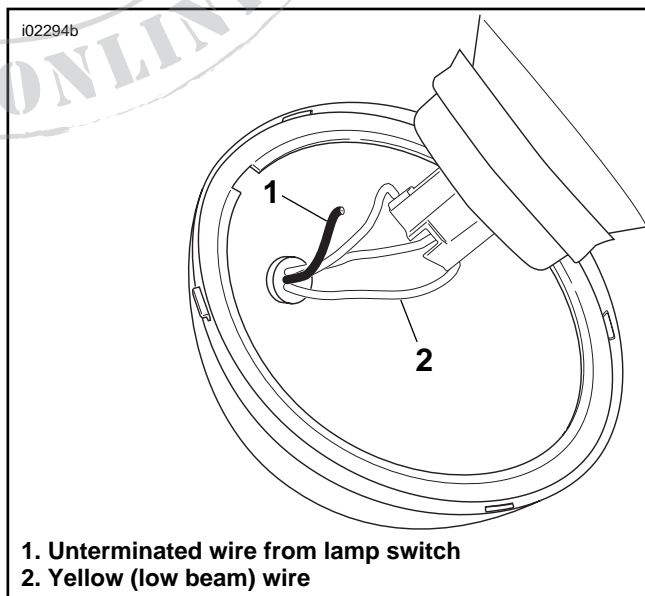

Figure 7. Splice the Unterminated Wire from the Switch to the Headlight Yellow (Low Beam) Wire
19. See Figure 7. Route the unterminated wire (1) from the switch through the grommet into the headlight housing. Splice it to the yellow (low beam) wire (2) using the Scotchlok® electrical connector (Item 14) from the kit.